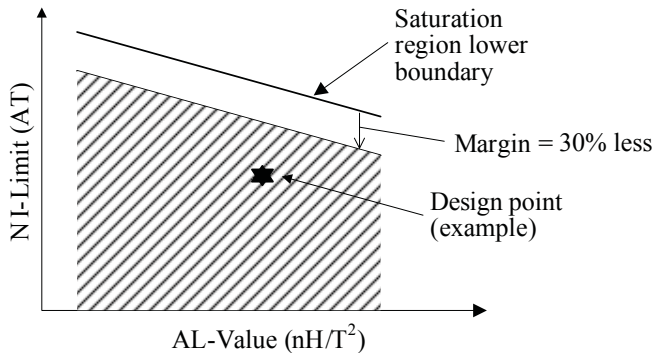

Figure 33. Example of NI-Limit versus AL-Value characteristics
When choosing a ferrite core to match the relationship of NI-Limit (AT) versus AL-value, it is recommended to set the calculated NI-Limit value below about 30% from the NI-Limit curve of ferrite core data, as shown in the hatched area containing the design point in figure 33, to provide a design margin in consideration of temperature effects and other variations, as expressed by the formulas below: